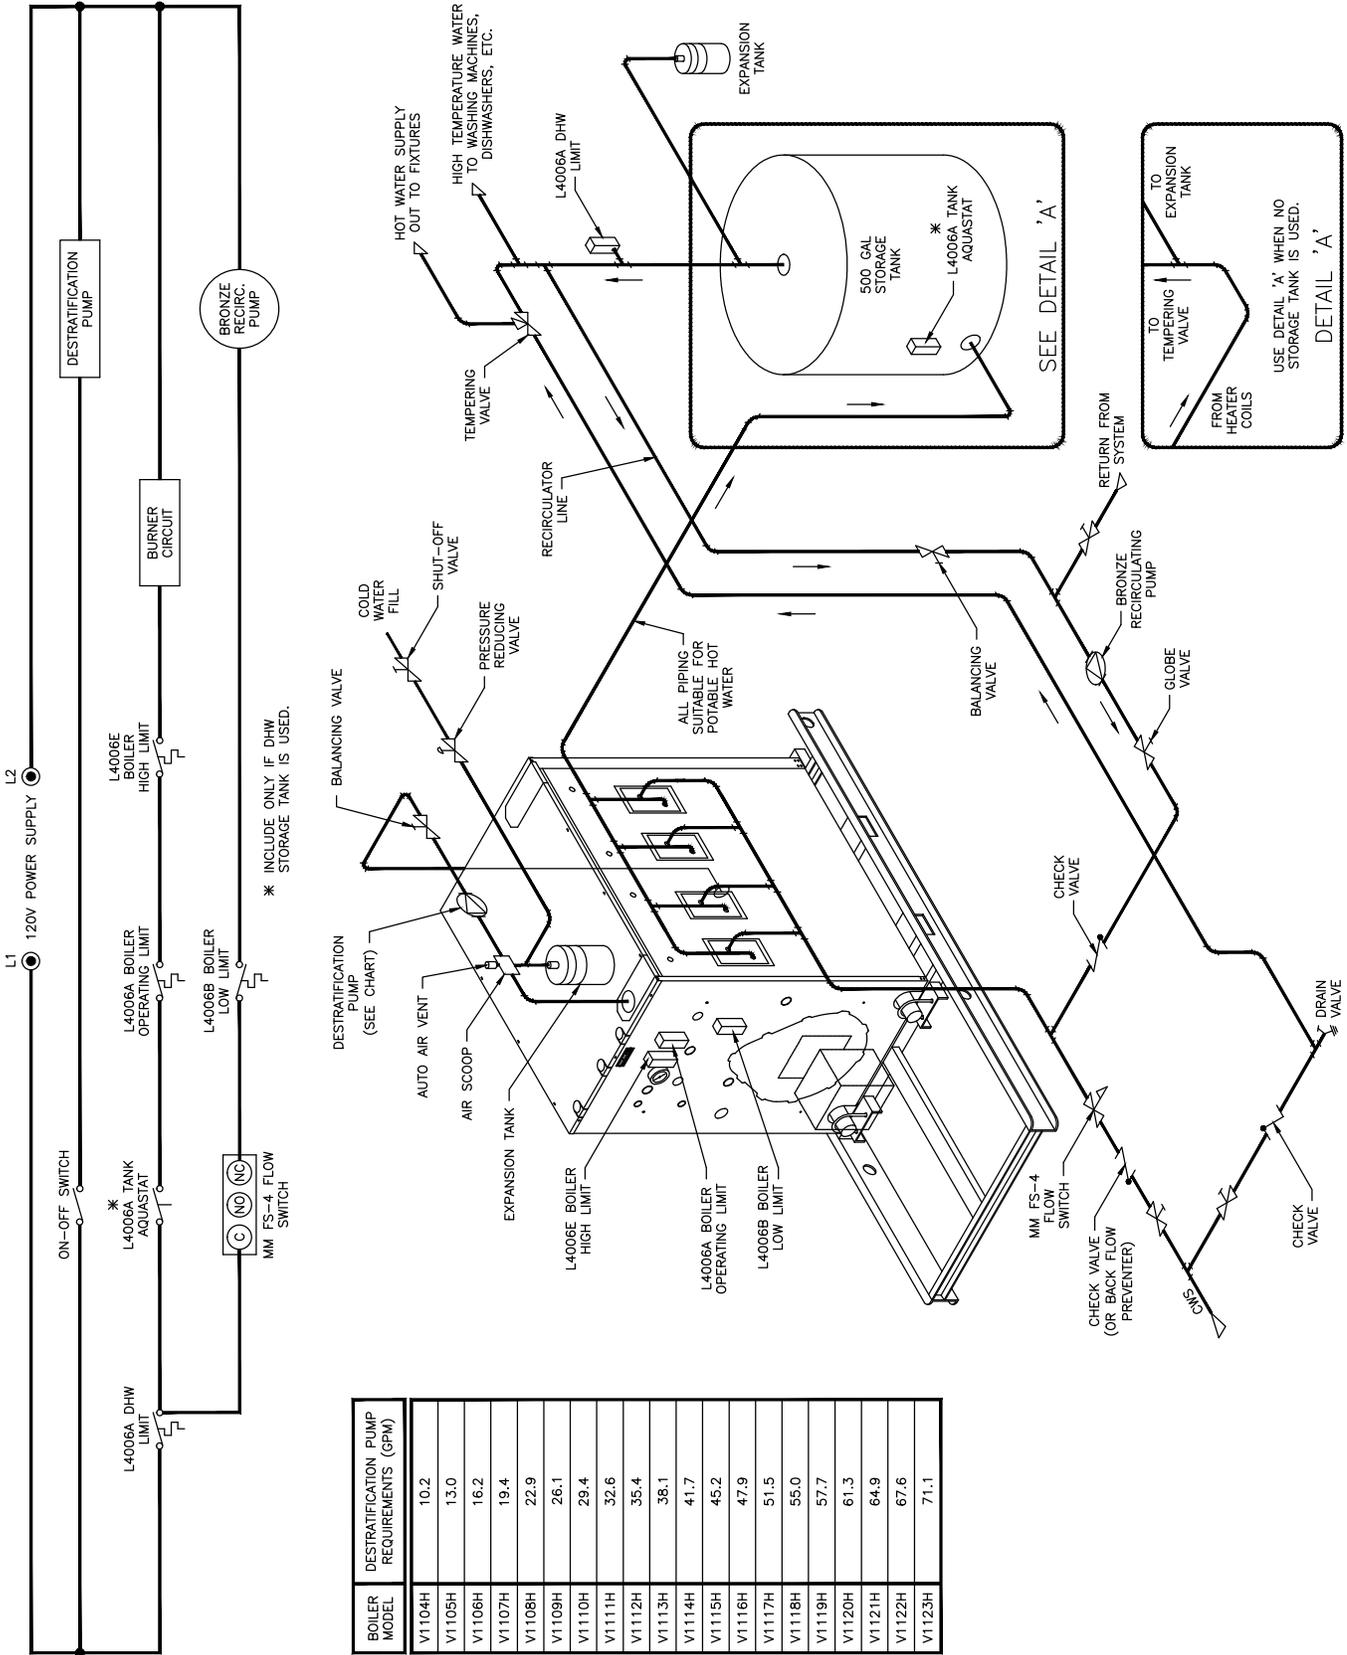

Figure 42a: DHW Generation with Tankless Coils, Storage Tank and Destratification Pump
2. Hot Water Boiler/Tankless Coils/Storage Tank – This application involves the use of several tankless coils piped in parallel, emptying into a large storage tank, and is typically used in larger DHW production applications, such as hotel showers and laundries. See Figure 42a for recommended piping and wiring details for this type of application. The tempering valve and recirculation loop are advantageous in these applications, because they provide both high temperature and tempered domestic water to the system, eliminating the need to purge and waste water until it reaches the desired temperature. In the case where the boiler is used for domestic production only, and there is no space heating involved, a destratification pump is utilized to provide flow within the boiler. This flow acts as a means of preventing the hot water from stratifying at the top of the boiler. Destratification pump flow rates are given in the table in Figure 42a.